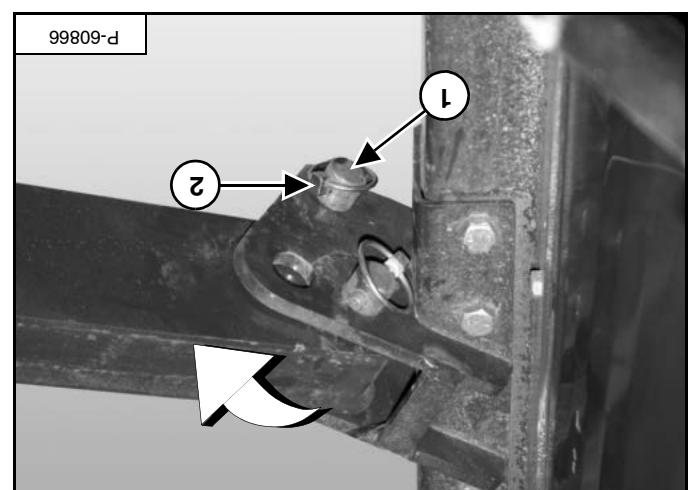

Figure 13
Lower the gutter brush and install the transport pin (item 1) and retaining pin (item 2) [Figure 13].